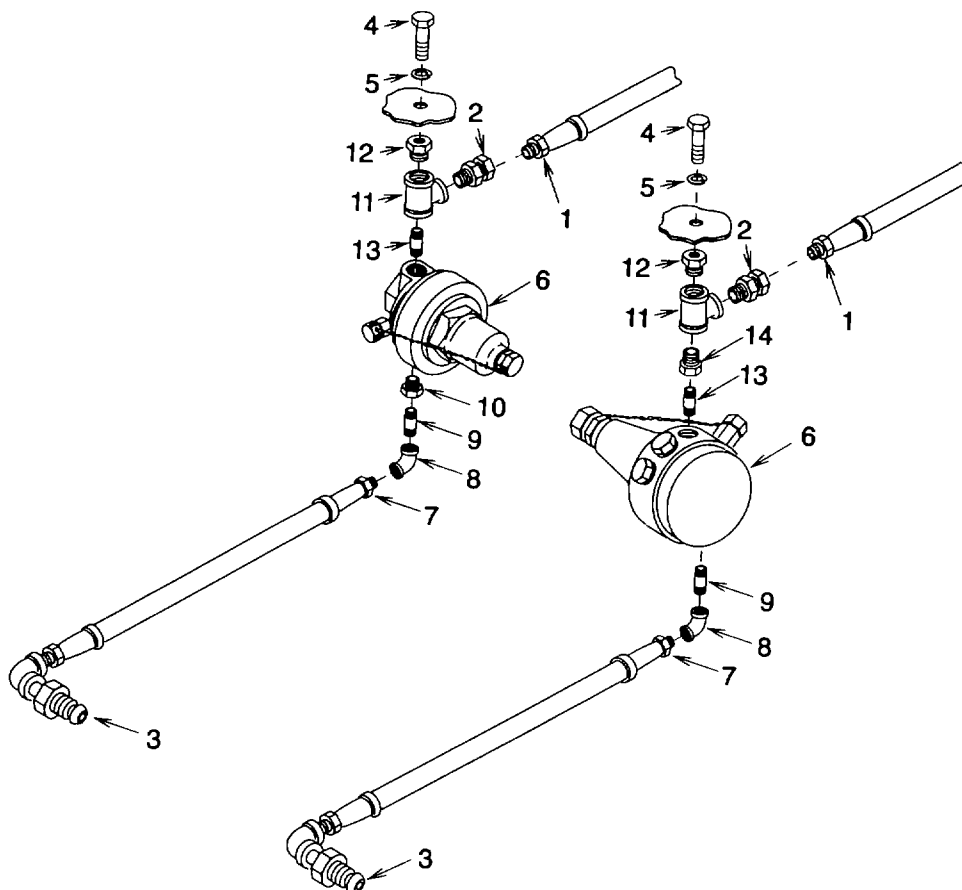

Figure 4-10. Regulators
a. Removal (See figure4-10.)
- (1) Disconnect fitting (1) from swivel adapter (2).
- (2) Disconnect fitting (3) from cylinder valve.
- (3) Remove screw (4), lock washer (5) and regulator (6) assembly
- (4) Disconnect fitting (7) from elbow (8).
- (5) Disconnect elbow (8) from nipple (9).
- (6) Dry chemical system only:
- (a) Disconnect nipple (9) from bushing (10).
- (b) Disconnect bushing (10) from regulator (6)